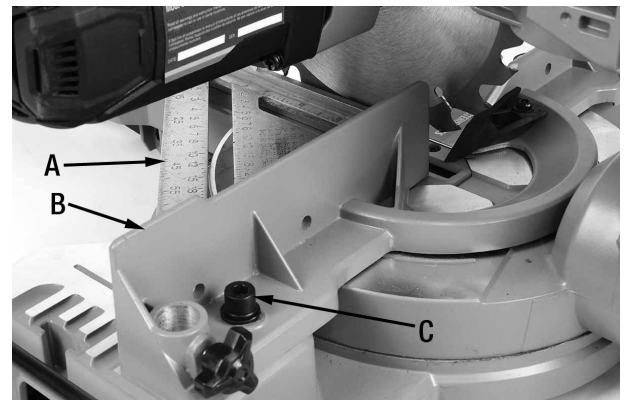

FIGURE 11
7. Place a square (A) Fig.11 against the fence (B) and the flat part of the blade.
10. Loosen the two fence cap screws (C) Fig.11 on both sides and position the fence (B) against the square and retighten all cap screws.